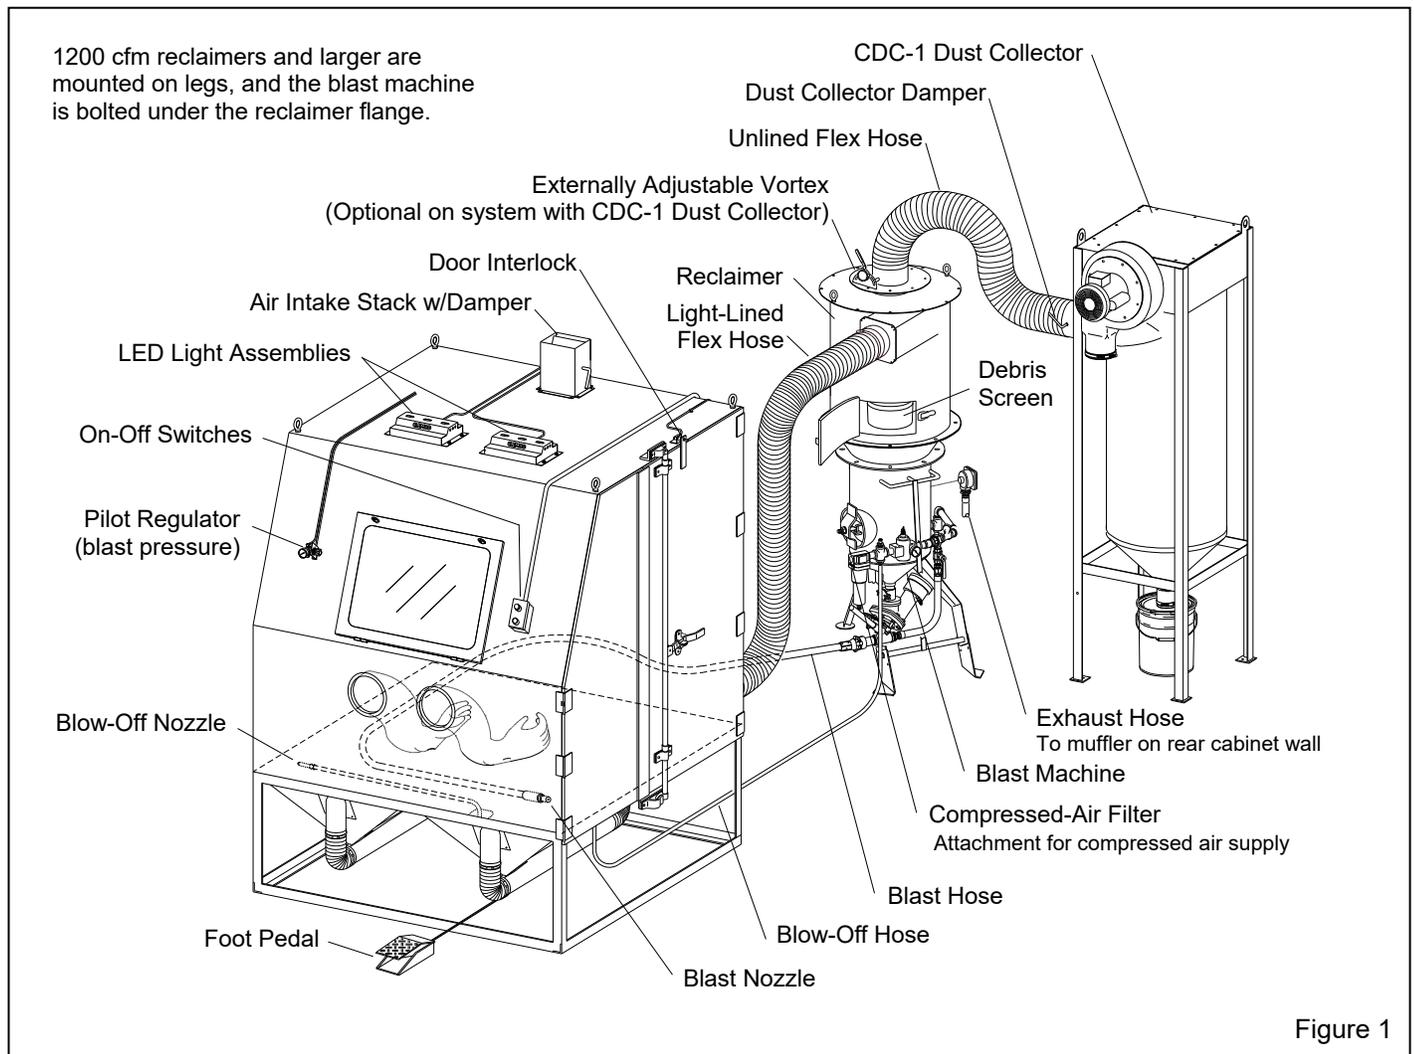

Figure 1
**1.4.3** Refer to Figure 1 for arrangement of components with a CDC-1 Dust Collector. The illustration shows 900 cfm reclaimer mounted atop the blast machine; the larger 1200 and 1800 reclaimer is mounted in the same manner but supported by legs. Figure 2 shows the arrangement with an RPC-2 reverse-pulse dust collector with dust drawer. The optional RPH is set up the same way as the RPC-2, but includes a hopper for additional dust storage and empties into a drum. The overall height of an RPH-2 is approximately 10.5 ft and 12 ft when the top access door is open. To upgrade, an RPC-2 or RPH-2 collector may be added at any time.
**1.7.1 CDC-1 Dust Collectors:** Shown in Figure 1, the collector is available for 900 cfm models. The single filter cartridge is cleaned by using a manually controlled pulse of compressed air. Dust collects in a 5-gallon dust drum, which must be frequently emptied. CDC-1 Dust Collectors are standard with BNP cabinets with 900 cfm reclaimers unless an optional RPC-2 or RPH dust collector is ordered at time of purchase. Refer to manual number 28225.
**2.1.1** Refer to Figure 1 (and Figure 2 for optional reverse-pulse collector) for the general arrangement and Figure 9 for the control line schematic. Select a location where compressed air and electrical service are available. The cabinet location must comply with OSHA and local safety codes. Allow for full access to all doors and service areas and for efficient handling of large parts. Provide enough clearance in front of the dust collector to remove the dust drawer without tipping. Ideally, locate the blast machine directly behind the cabinet with the blast-hose connection toward the cabinet. The reclaimer may be rotated on the blast machine to allow for as few bends as possible to prevent wear. Determine the best location for all components and position them before making compressed-air connections, electrical connections, and attaching flex hose.